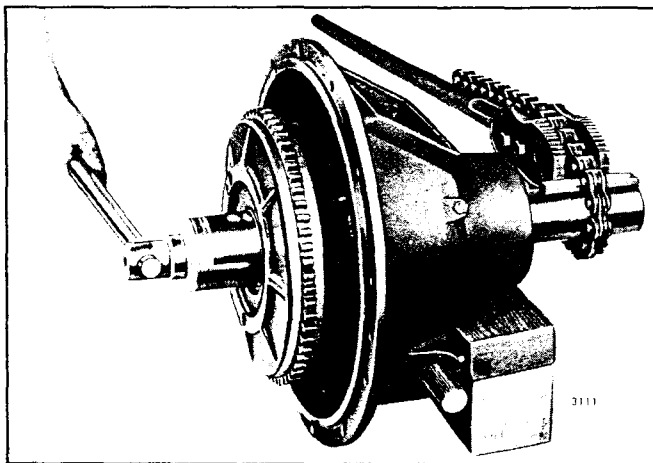

Fig. 8 - Removing Clutch Drive Shaft Nut
7. Install the key in the keyway of the clutch drive shaft. Attach a chain wrench to the drive shaft as shown in Fig. 8 to prevent the drive shaft from turning. Then remove the nut and lock washer from the shaft.